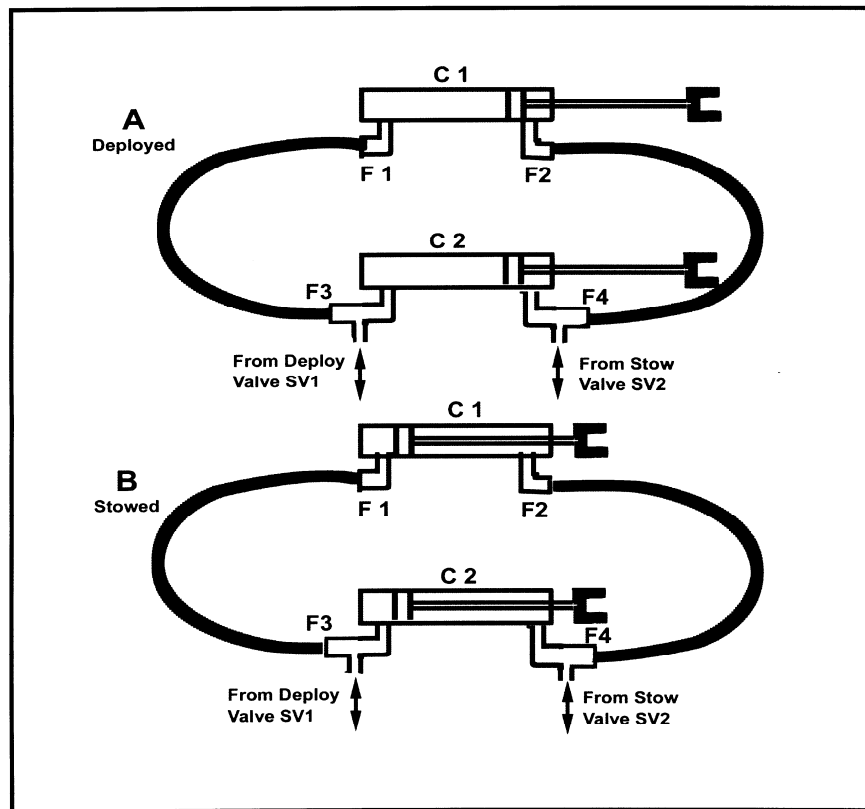

FIGURE 3-1: BLEEDING STOW/DEPLOY CYLINDERS
- ◆ Refer to Figure 3-1, “B” stowed. Collapse both cylinders by slowly manually pumping.
- ◆ Refer to Figure 3-1, “B” stowed. Loosen hose fitting.